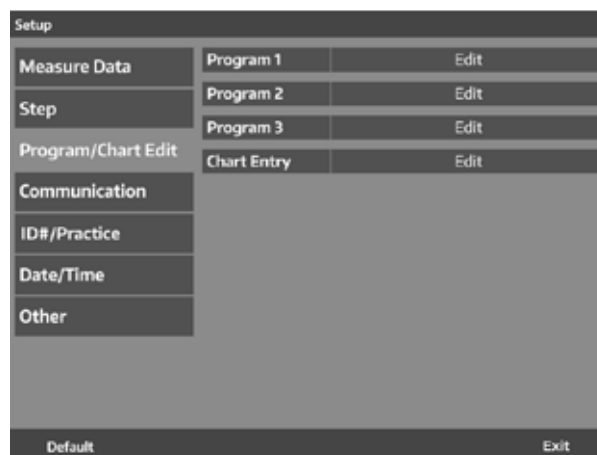

Figure IS-35 Program/Chart Edit
Up to 3 different programs can be created or edited and used when performing a refraction with the SightChek. Default charts can also be pre-set in this setting as well. Refer to Figure IS-35.
1. Touch **EDIT** next to the Program you wish to edit. The Programs screen will appear. Refer to Figure IS-35.
1. Touch either **CHART** in the edit program section, or **Chart Entry** on the Program/Chart Edit tab. Refer to Figure IS-35 and IS-36